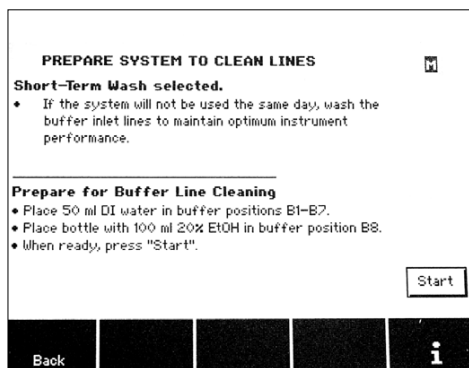

Fig. 16. Preparing the system for cleaning.
- Remove sample tubes, install tubes filled with water, and install the cleaning tray. Press Start to begin the cleaning process. Refer to Figure 16 for the screen associated with this command